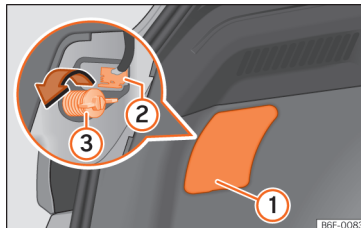
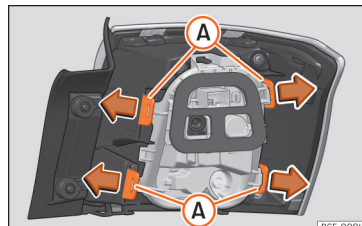

Fig. 107 Boot: access to the bolt securing the tail light unit.
Fig. 108 Retaining tabs on reverse side of tail light.
»» **Fig. 107** ①.
4. Remove the bulb connector ②.
5. Unscrew the light securing bolt ③ by hand or using a screwdriver.
7. Remove the bulb holder unlocking the retaining tabs »» **Fig. 108** ④.